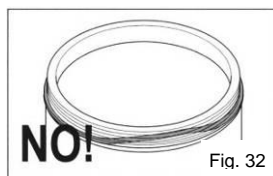

Fig. 32
- Fig. 32 shows incorrectly installed seal; in such case the seal DOES NOT adhere to the whole edge of the container.
- In order to assemble the outlet tap reverse operations shown in figs. 32 to 37 (section 6.2.5).
- In order to install the lever (F) press the stem (D) from inside to make the guides visible, then fix the lever (F) and slowly release the stem (D).